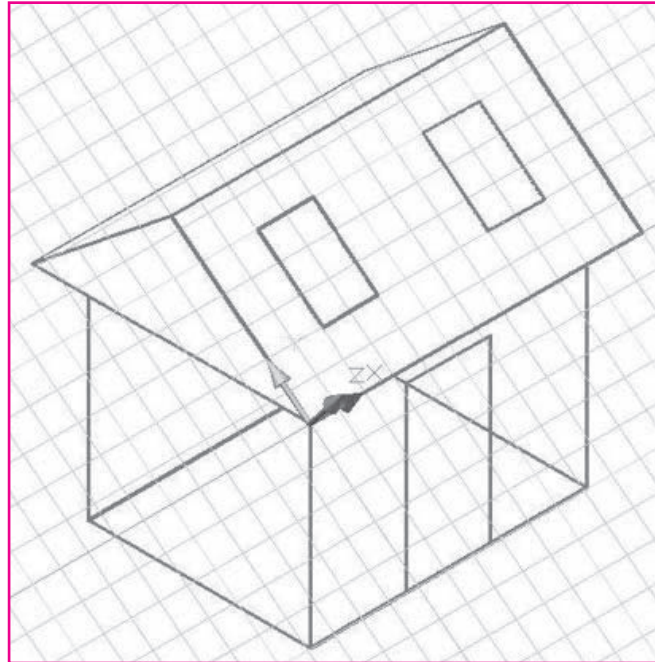

Fig. 41-4
14. Draw two **2' × 3'** skylights on the front roof. Locate the skylights **2'** from the downhill corners of the front roof, as shown in Fig. 41-4.